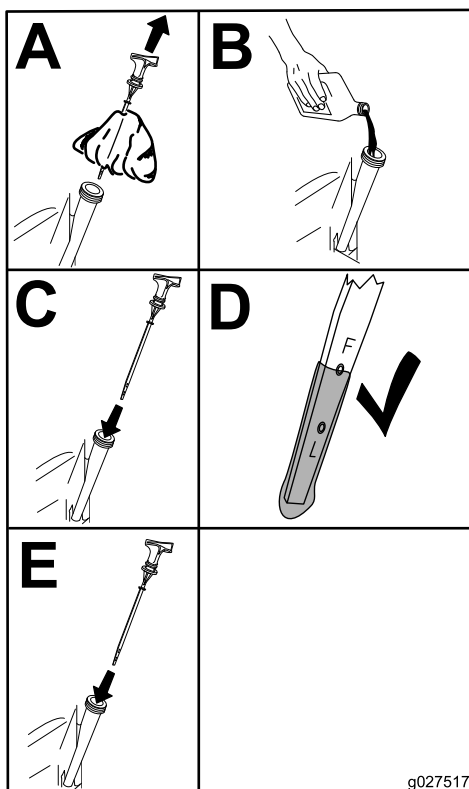

Figure 61
6. Slowly pour approximately 80% of the specified oil into the filler tube and slowly add the additional oil to bring it to the Full mark (Figure 61).